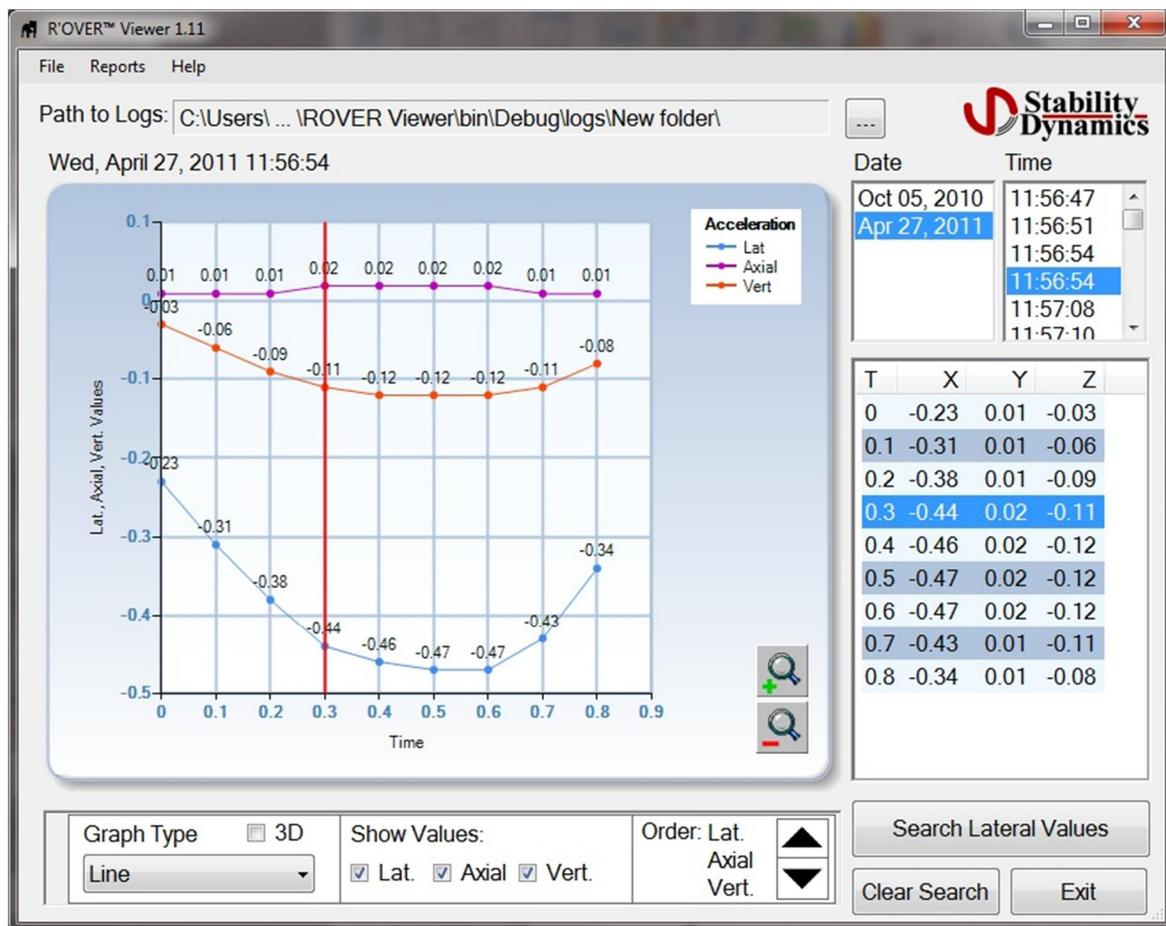
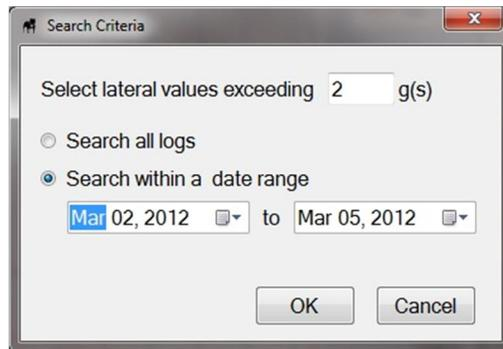

Figure 4
Figure 5
- Log files are read into the application, listed both by the date they were created, and by the times the R'Over™ hardware was activated. The data is then broken down and displayed in millisecond increments. Click on a date in the Date list to see data for that date, and click a Time value to display the data for that time, in milliseconds, in both the chart area and in list form (Figure 4). If a specific millisecond value is selected from the list of millisecond increments, a vertical line will be displayed on the chart at the same location.
6. **Filtering Lateral Values** – To filter based on a minimum lateral g value, click the ‘**Search Lateral Values**’ button (Figure 4). Enter the minimum lateral g value. Optionally, the search can be configured to include all log files in the current directory, and to look at a specific date range (Figure 5). Click the ‘OK’ Button. Only the log files with values that match the search criteria will be displayed. To cancel the filtering, click the ‘Clear Search’ button (Figure 4).
8. **Viewing Options** – The default chart view is a simple line style. The style can be set by selecting from the dropdown list at the bottom of the application window (Figure 4). The chart can also be viewed as a 3D type image by clicking the ‘3D’ checkbox. In 3D mode, the chart can be rotated by clicking on it and dragging to the desired view.
9. **Changing Display Order Of Data** - Some chart styles in 3D mode result in one value overlapping another. It may be necessary to change the order by which the data is displayed. Select one of the three axes (Lat., Axial, or Vert.) in the ‘Order’ window (Figure 4). Click the up arrow to bring the selected value to the front of the chart, or the down arrow to display it in the background.
10. **Values To Display** – Numerical data for the three axes display on the chart unless the number of values is so great that the chart becomes difficult to read. Optionally, there are checkboxes at the bottom of the application window (Figure 4) to select what axes to show the values for. By default, all three axes are selected.